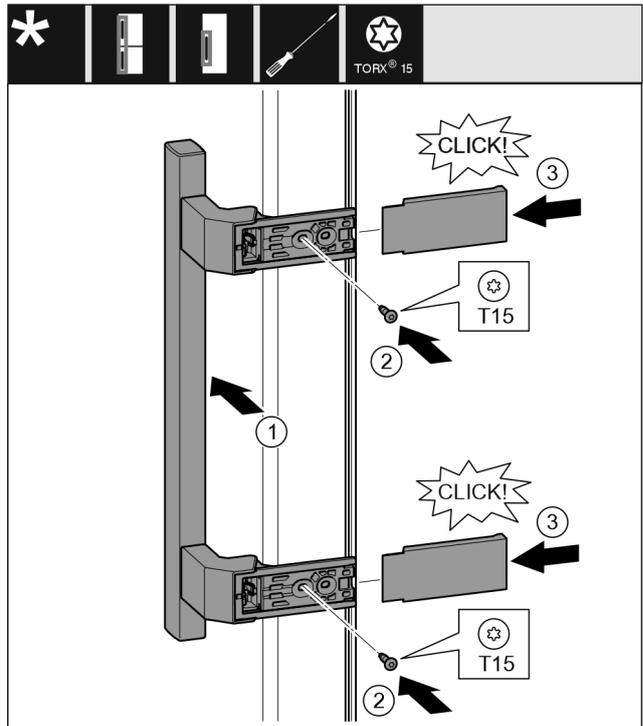

Fig. 21
- ▶ Position the handle on the other side. Fig. 21 (1)
- ▶ Tighten the screw with a T15 screwdriver. Fig. 21 (2)
- ▶ Position the covers on the side and push them on. Fig. 21 (3)